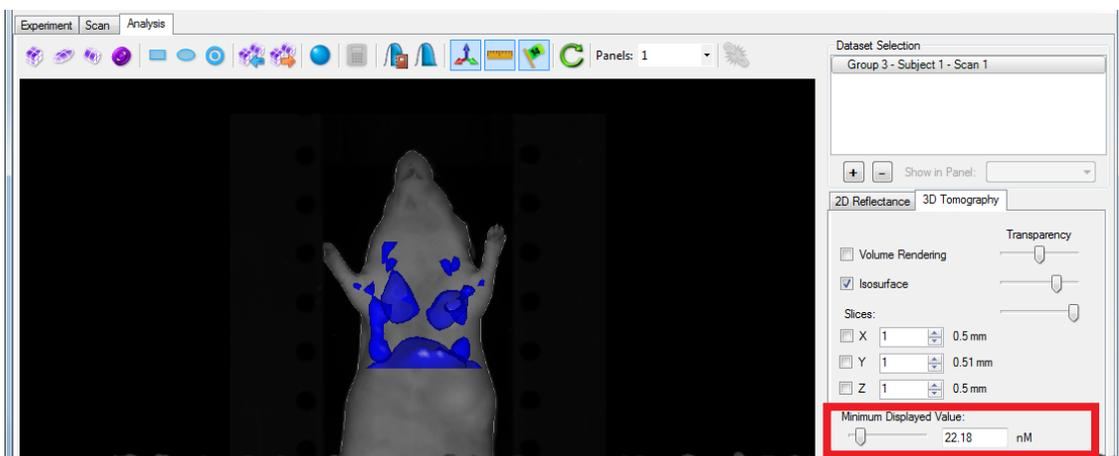
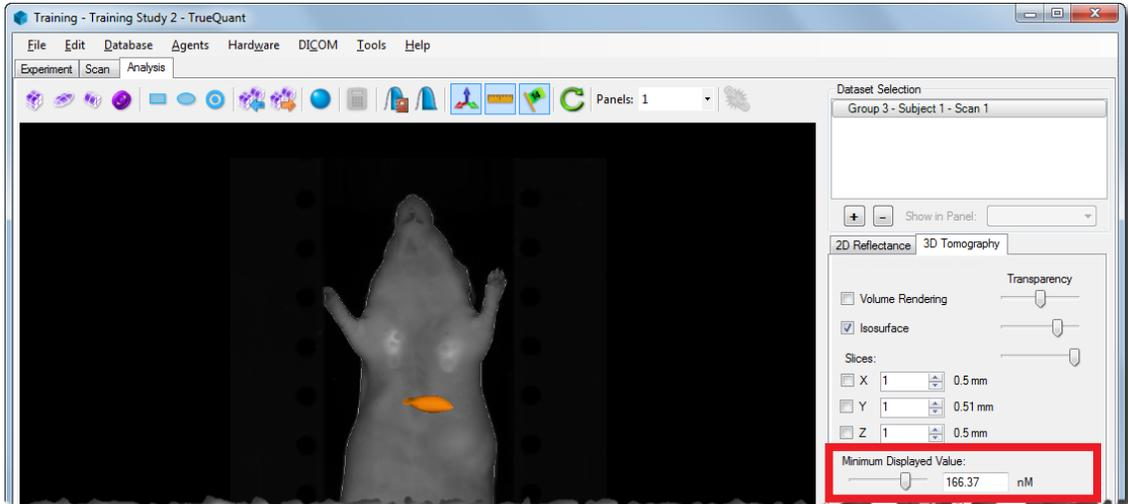

Figure 7-19. Selecting a low value for the 3D isosurface.
Figure 7-20. Selecting a higher value for the same isosurface.
- Threshold for the color-mapped display of either a reflectance fluorescent contour, or a 3D isosurface fluorescent contour (Figure 7-19 and Figure 7-20). Note, the software displays a corresponding numerical unit (counts/energy for 2D, nM for 3D FMT data, or the appropriate units for non-FMT data) in the **Minimum Displayed Value** text box as you move the slider. Alternatively, you can enter the desired number directly in the text box next to the slider.